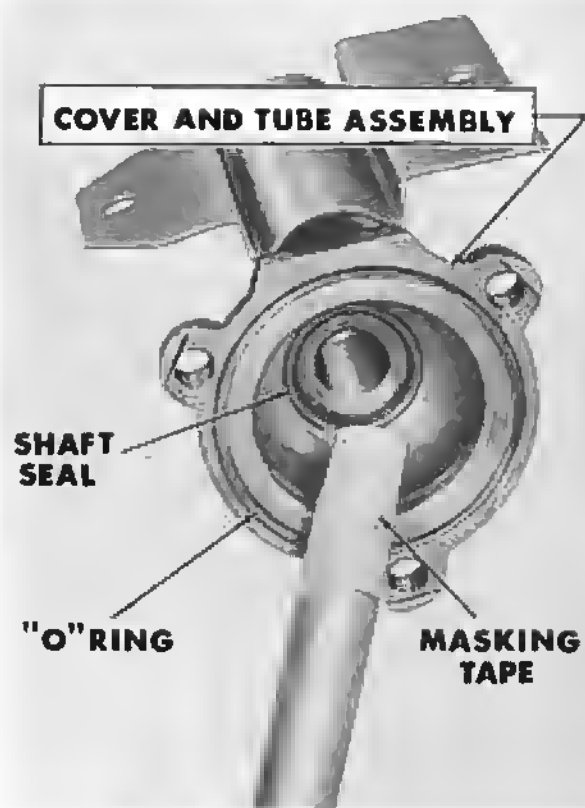

Figure 20 - Installing the Cover and Tube Assembly
1. Inspect the seal in the shaft bore of the cover and tube, Figure 20, for nicks, scratches or signs of hardening of the lip. If necessary, remove the seal with an offset screwdriver and replace with a new seal that has been well coated with lubriplate. Press the seal into place with a proper sized socket, taking care not to damage the seal lip.